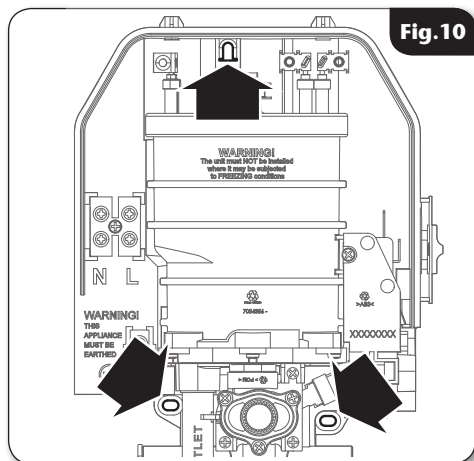

Fig. 10
- Use the backplate as the template making sure it is level and mark the fixing holes (fig.10).